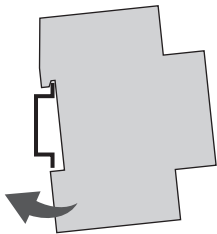

Fig. 4: Installation on a DIN rail
1. Place the clock timer on the DIN rail (Fig. 4) from above and press it back until it locks into place.